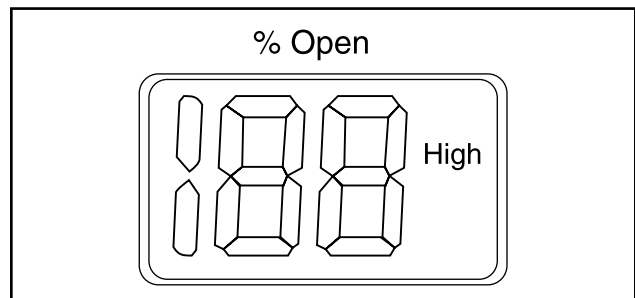

Figure 25
- **High** represents that ICAD is operating the ICM valve like an ON/OFF solenoid valve with high speed according to a digital input signal (Figure 25).